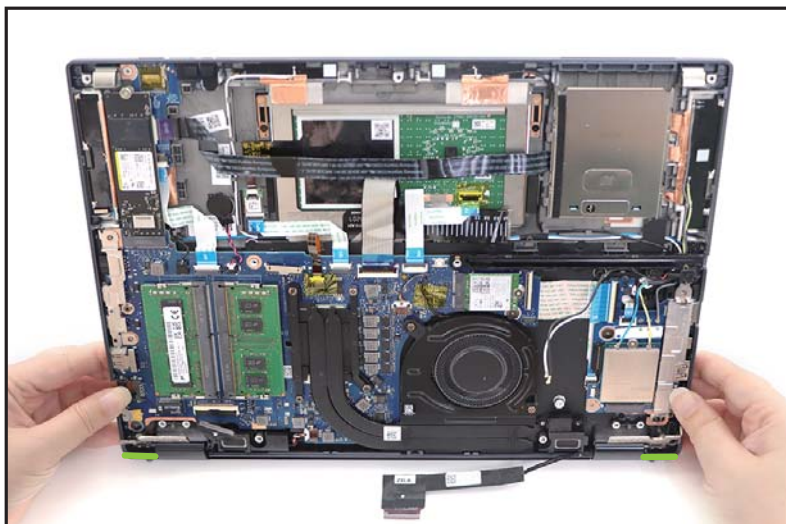

Figure 1-24. LCD Module Removal
8. Open the top assembly again and lift to remove the top assembly (Figure 1-24).